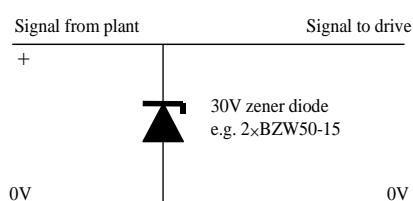

Figure 1
2. Additional over-voltage suppression: This applies to both analogue and digital inputs and outputs. A zener diode network or commercially available surge suppressor may be connected between the signal line and 0 V as shown in Figures 1 and 2.